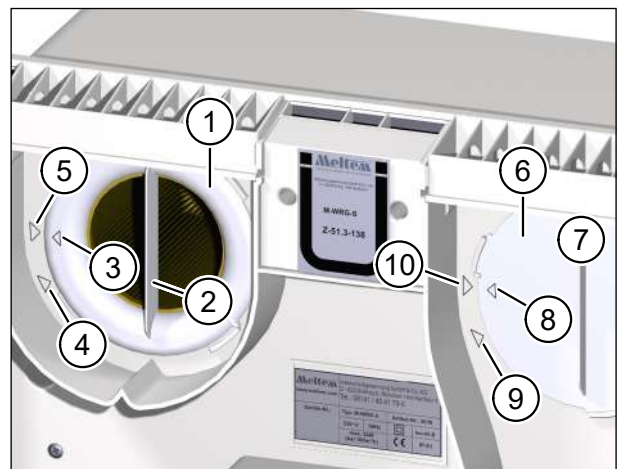

Fig. 14: Insert filter ring and filter cover
- ▶ Place the filter ring (item 1 in Fig. 14) on the extract air filter. Make sure that the filter ring lies flat on the intermediate plate.
- ▶ Make sure that the filter ring is oriented so that the arrow on the filter ring (item 3 in Fig. 14) lines up with the arrow for the removal position (item 4 in Fig. 14).
- ▶ Turn the filter ring clockwise until the arrow on the filter ring (item 3 in Fig. 14) lines up with the arrow for the locking position (item 5 in Fig. 14).
- ▶ Place the filter cover (item 6 in Fig. 14) on the outdoor air filter. Make sure that the filter cover lies flush on the intermediate plate.
- ▶ Make sure that the filter cover is oriented so that the arrow on the filter cover (item 8 in Fig. 14) lines up with the arrow for the removal position (item 9 in Fig. 14).
- ▶ Turn the filter cover clockwise until the arrow on the filter cover (item 8 in Fig. 14) lines up with the arrow for the locking position (item 10 in Fig. 14).
- ▶ Check the position of the filter ring (item 1 in Fig. 14) and filter cover (item 6 in Fig. 14). The hand grips (item 2 and 7 in Fig. 14) must be vertical and the arrows on the filter ring and filter cover must line up with the arrows for the locking position.